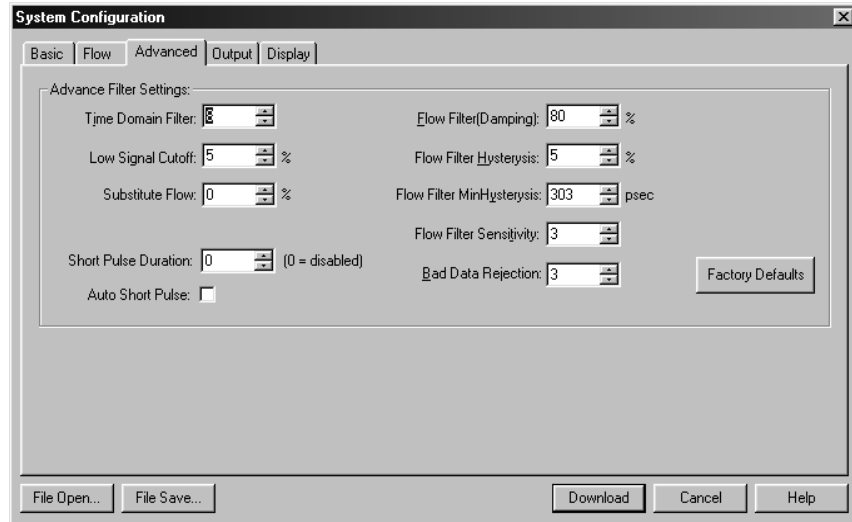

Figure 3.5
3. ADVANCED TAB — See Figure 3.5